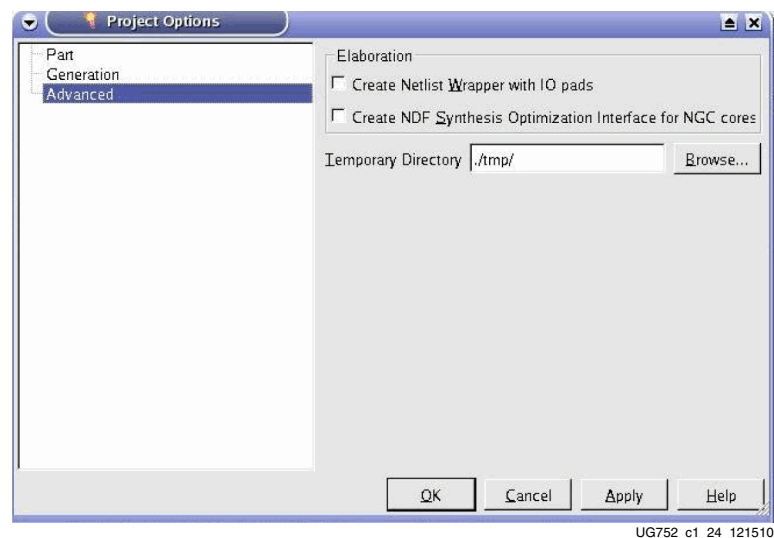

Figure 1-21: Advanced Options
8. In the Project Options window, under **Advanced**, leave all settings unchanged. Figure 1-21 shows the correct settings.